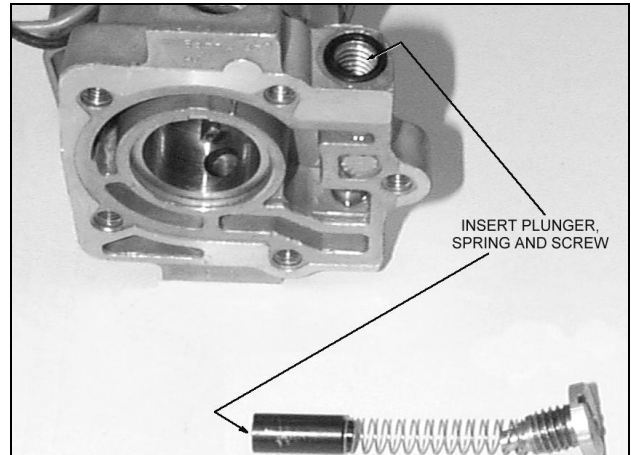

Figure 8
7. If the relief plunger is rusty, clean it with emery paper. The plunger must slide freely in the base. Check the plunger, spring, and o-ringed screw. Check that plunger is free in the passage. See Figures 8 and 9.